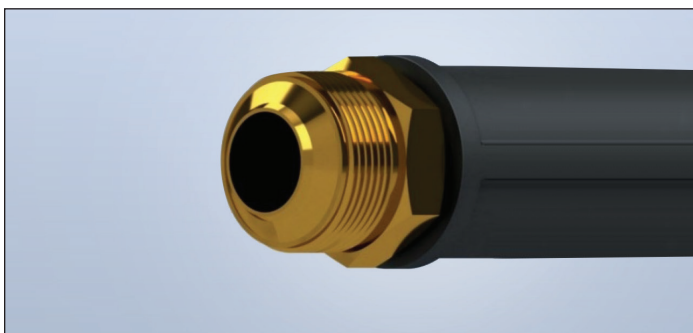

Figure: 1-6
6. Apply pipe dope or thread sealant to the NPT threads of the fitting Body as needed. Tighten the NPT threads of the TracPipe System fitting Body into the NPT threads of the mating pipe component. Sealants are to be used on the NPT connection only (Figure 1-6)!